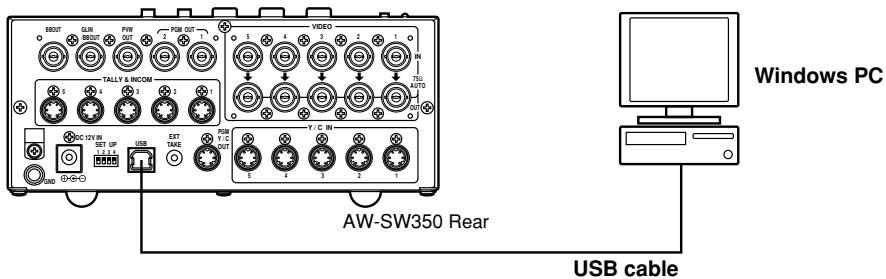

Fig.1 Connections
**2** Set the AW-SW350's Power Switch to ON, check that the Power Indicator has lighted, and connect one end of the A-B type USB cable to the USB port on the rear panel of the AW-SW350 and the other end to the USB port on the host computer. (Fig.1)